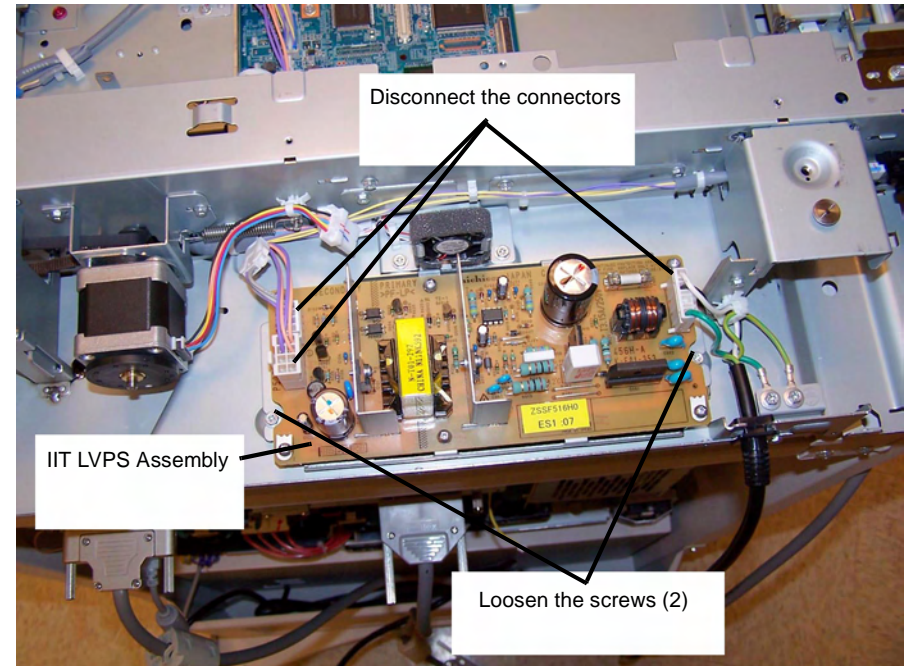

Figure 1 Removing the IIT LVPS Assembly
3. Remove the IIT LVPS Assembly (Figure 1).
- a. Disconnect the harness connectors (3).
- b. Loosen the screws (2).